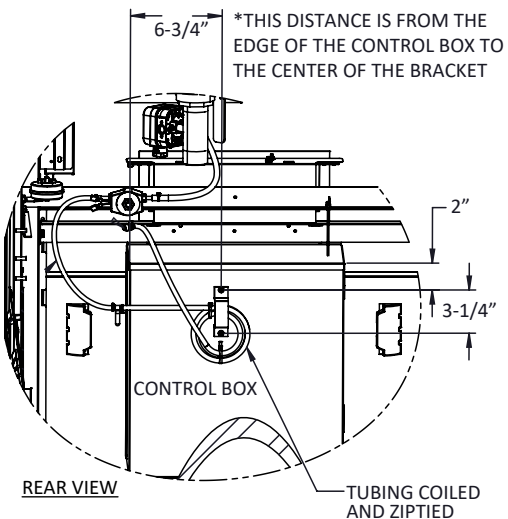

Figure 4. Bracket Mounting Position
12. Using a 5/16-inch drill bit, drill two holes in the rear panel of the control box to install the tubing bracket. Before drilling, position the bracket as shown in **Figure 4** to ensure proper alignment and to potentially avoid contact with internal components.
13. Fasten the tubing bracket using the two (2) 3/8-inch self-tapping screws included in this kit.